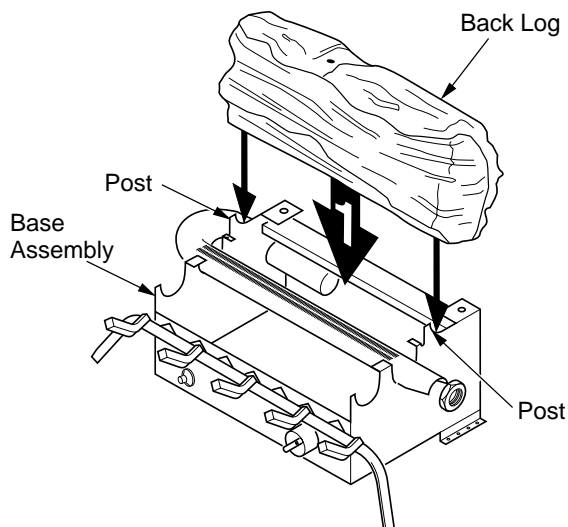

Figure 36 - Installing Back Log
1. Place the back log onto the back of the base assembly. Make sure log sits forward against the two posts in front of log (see Figure 36). This log may be turned to face either direction.